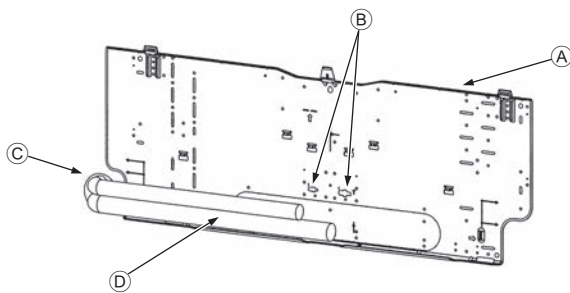

Fig. 3-5
- (A) Min. 120 mm, 4-11/16 in. (617.6 mm, 24-5/16 in. or greater with optional drain pump installation)
- (B) Min. 220 mm, 8-11/16 in.
- (C) Min. 70 mm, 2-3/4 in. (130 mm, 5-1/8 in. or greater with left, rear left, or lower left piping, and optional drain pump installation)
- (D) Fixing screws (4 × 25) ②
- (E) Level
- (F) Mount board ①
3.3. When embedding pipes into the wall (Fig. 3-5)
- (A) Mount board ①
- (B) Reference marking for flare connection
- (C) Through hole
- (D) On-site piping